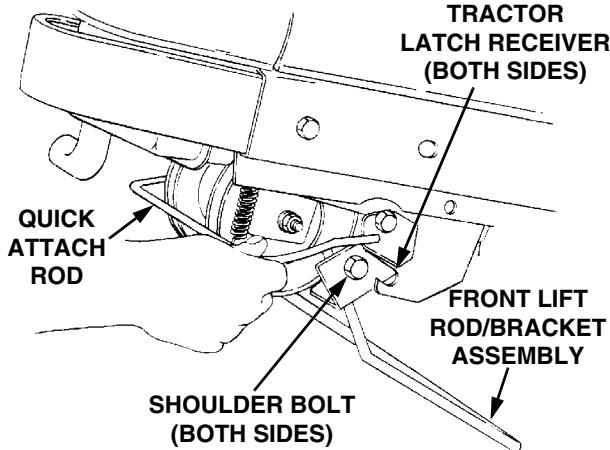

Figure 40
- From the front of the tractor, push downward and hold the tractor quick-attach rod. Pull the front lift rod/bracket assembly forward to release the shoulder bolts on each side of the bracket from the left and right tractor latch receivers. Release the tractor quick-attach rod. See Figure 40.